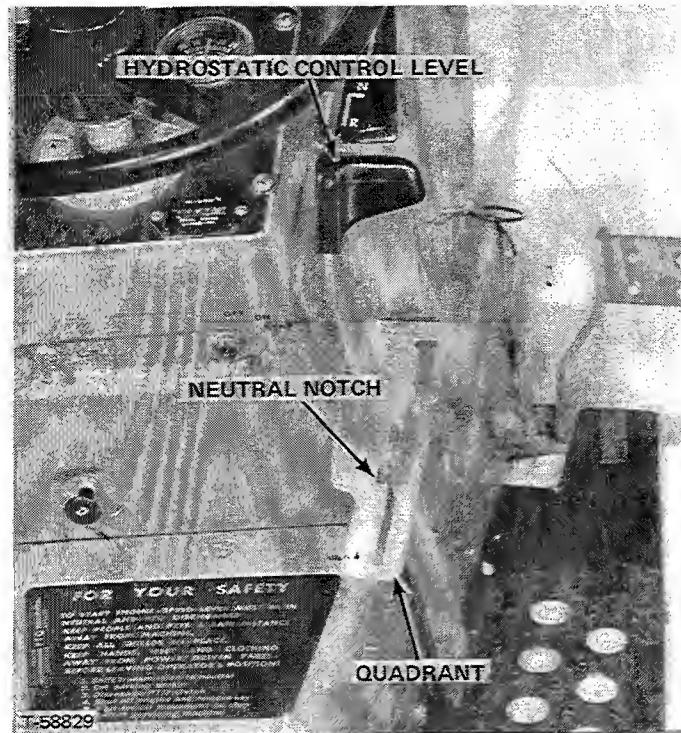

FIGURE 46
4. Hydrostatic Neutral Adjustment. If tractor moves forward or backward when the hydrostatic control lever is in the neutral notch of the quadrant as seen in Figure 46 proceed as follows to adjust the control linkage :